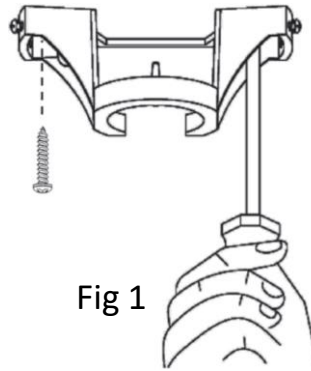

Fig 1
1. Secure the hanging bracket to the ceiling joist or suitable structure that is capable of carrying a load of at least 45kg, with the two long fixing screws provided. (Fig 1)
After completing the ceiling fan installation, install the 12V battery (included) in the hand held remote control (FIG 1). The fan is ready for use with the remote control without setting up.